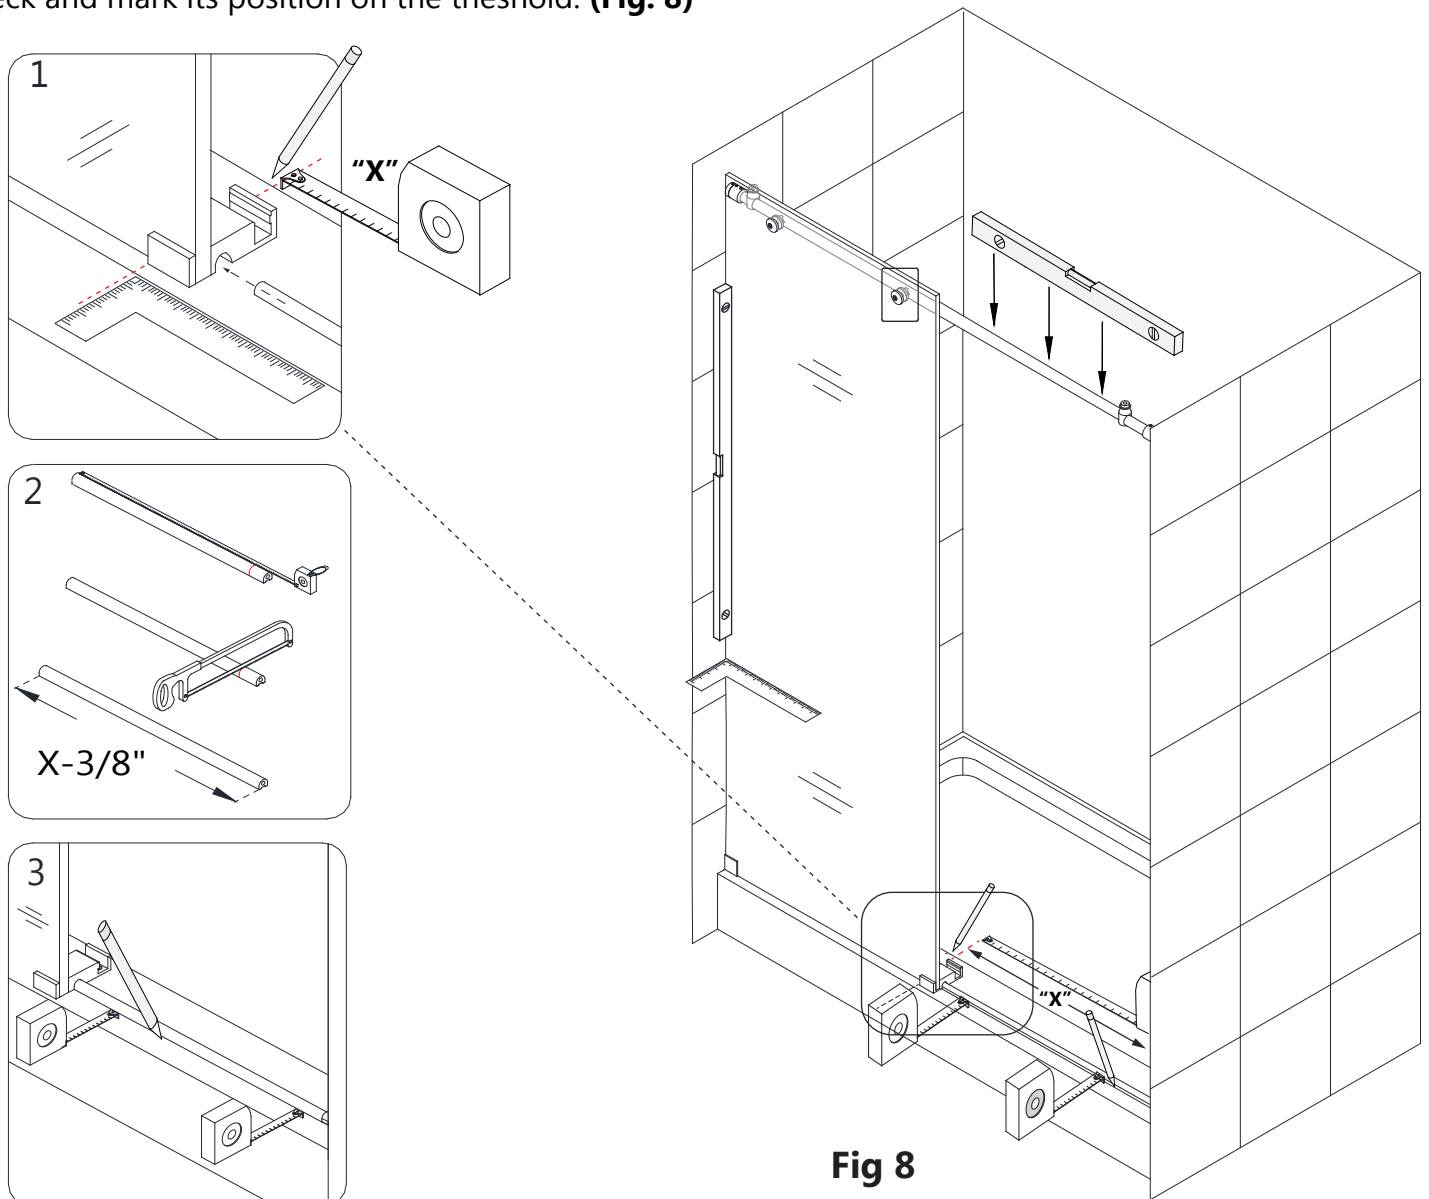

Fig 8
7. Mark the **Guide Block (#12)** position and the holes for drilling on the threshold. (Make sure the **Guide Block (#12)** is square to the **Stationary Glass (#02)**). Measure the distance from the door-side wall to the far edge of the **Guide Block (#12)**. This distance will be "X". The **Anti-Splash Guard (#15)** will need to be cut to the size of: $X - 3/8"$. Insert the **Anti-Splash Guard (#15)** into the **Guide Block (#12)** and align the **Anti-Splash Guard (#15)** parallel to the front edge of the threshold or tub deck and mark its position on the threshold. (Fig. 8)